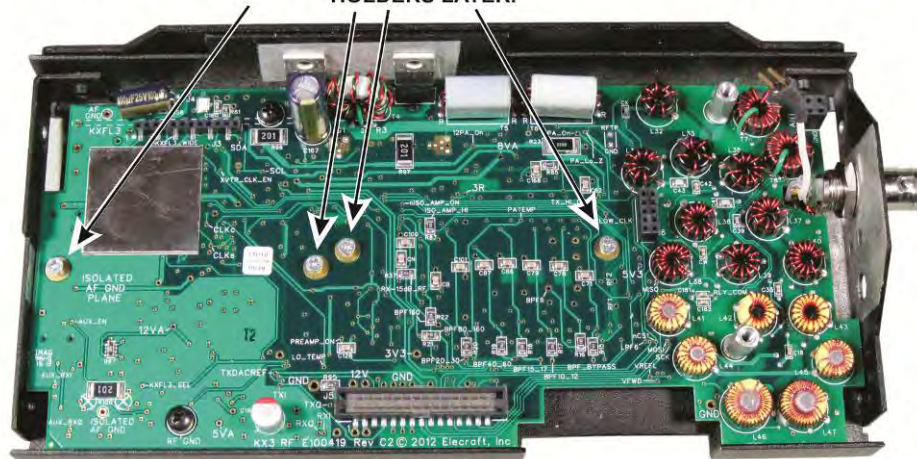

Figure 45. Checking the Alignment of the Battery Holder Standoffs.
- ☐ Thread 2-56 screws into the remaining four holes in the RF board as shown in Figure 45, make adjustments as necessary for them to fit just as you did in the previous step and then remove them. These screws will be replaced later to secure the battery holders.